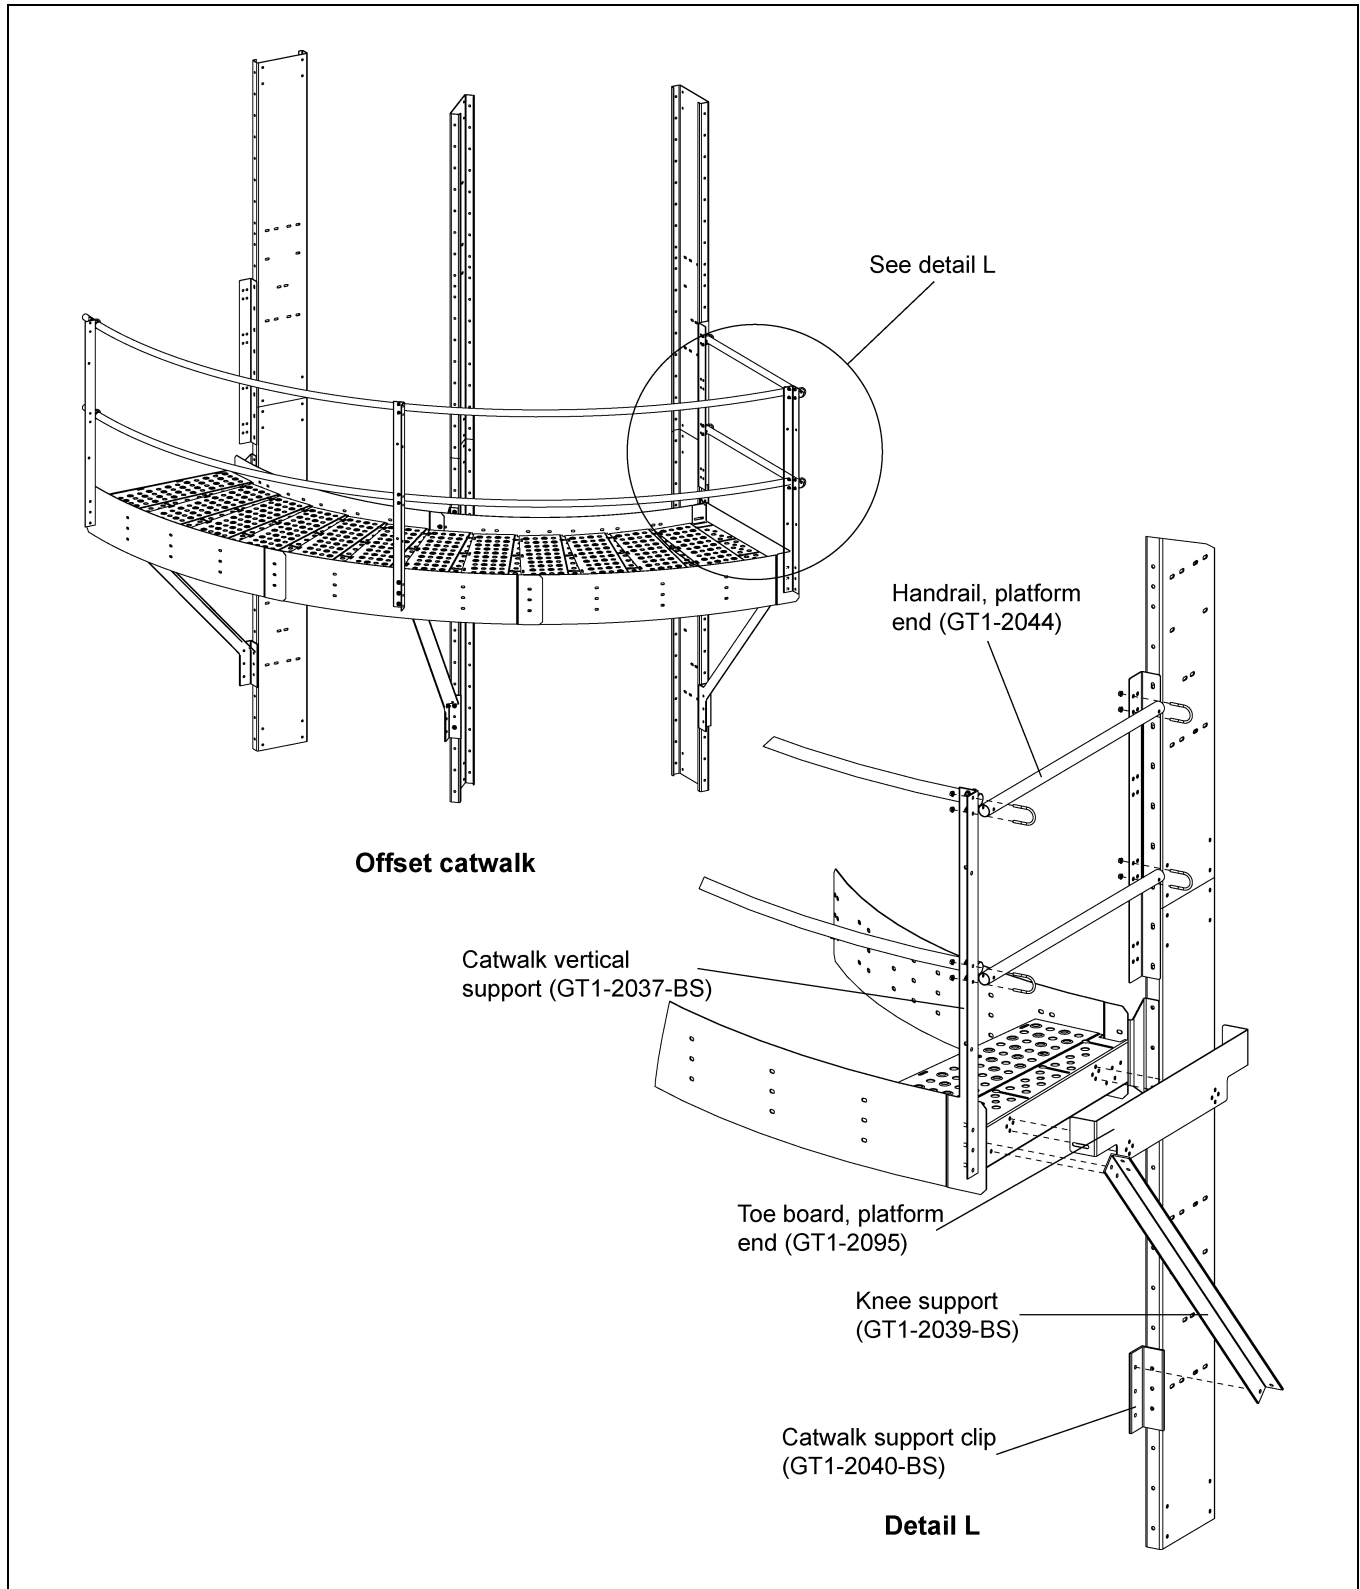
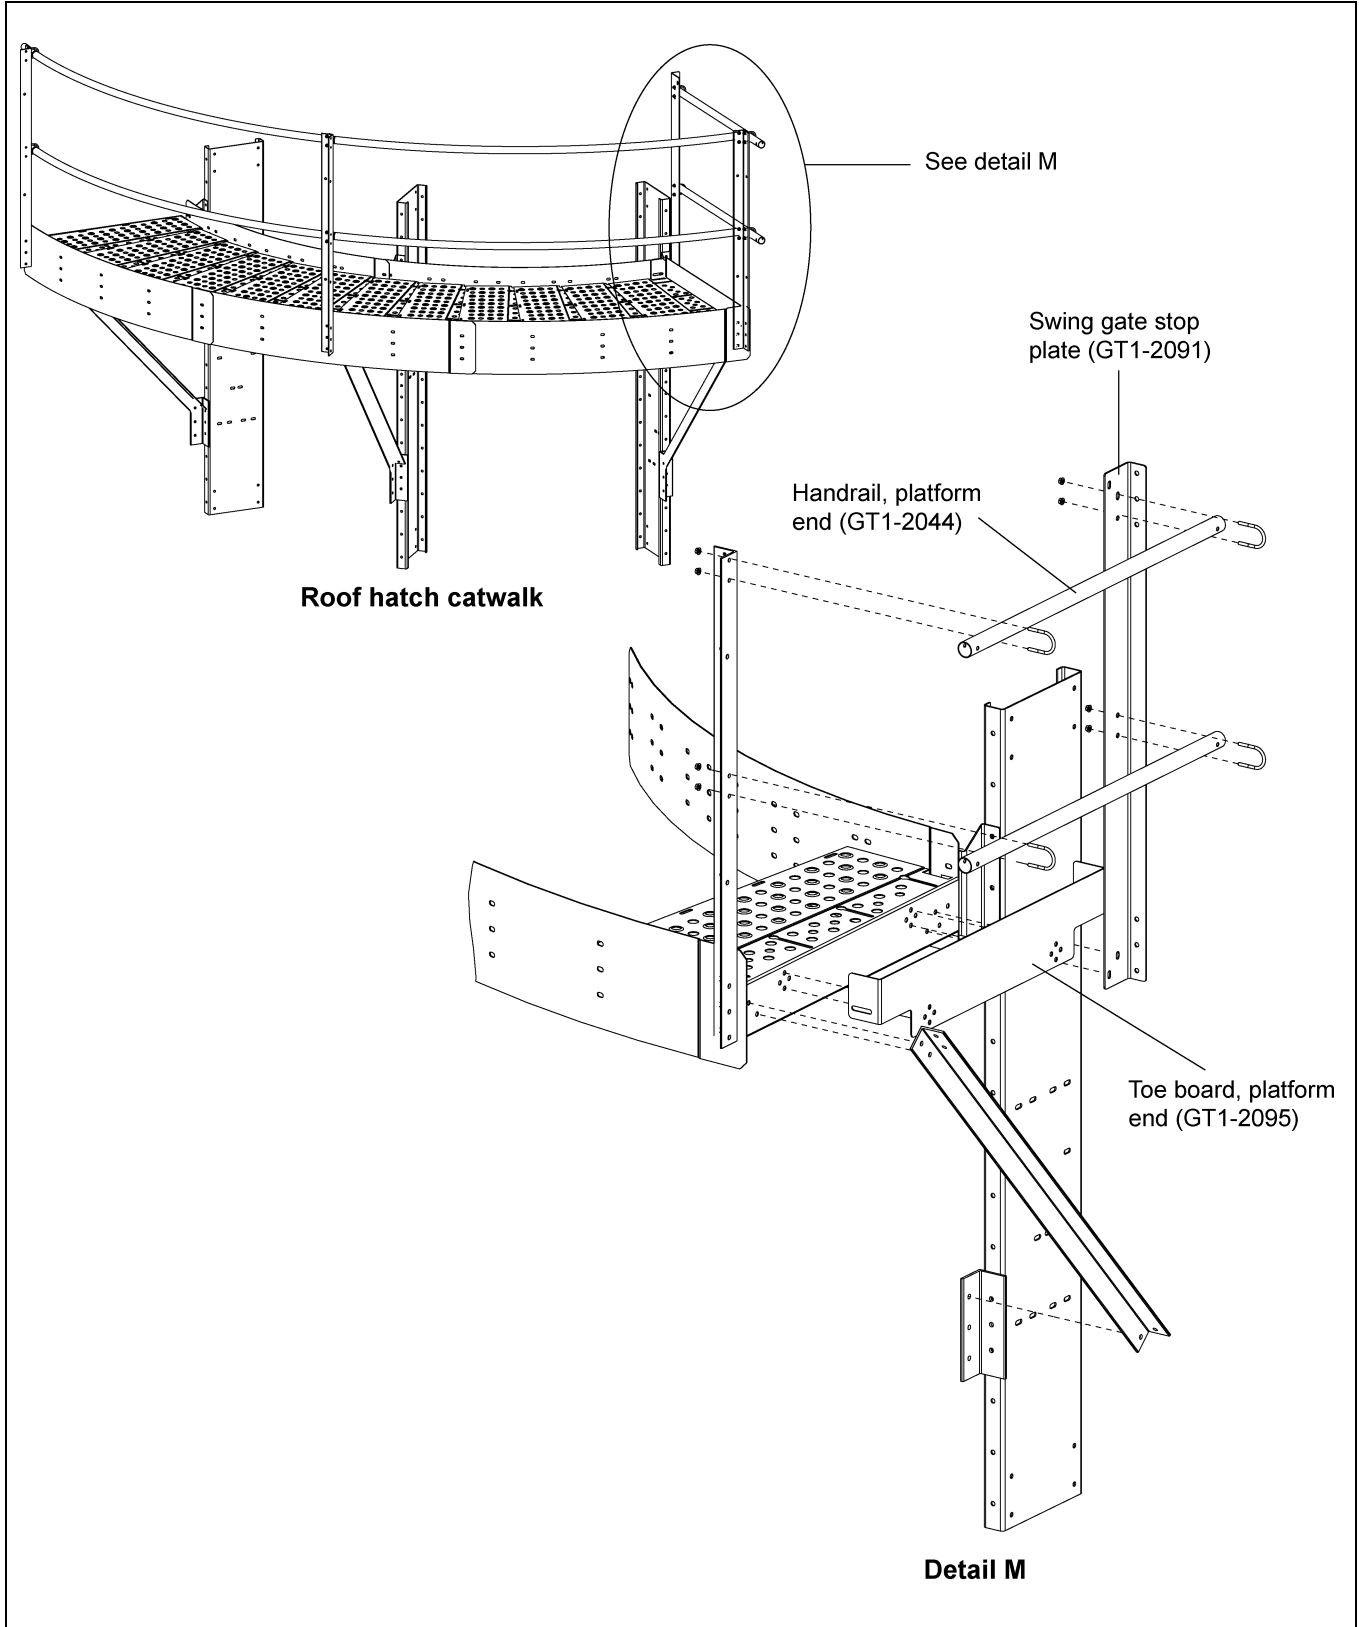

Figure 6V Offset Platform End Handrail (GT1-2044) Installation
Figure 6W Roof Hatch Platform End Handrail (GT1-2044) Installation
3. Install the platform end handrail (GT1-2044) to the catwalk vertical support (GT1-2037-BS) and the platform end plate (GT1-2045). (See Figure 6V below and Figure 6W on Page 55.)